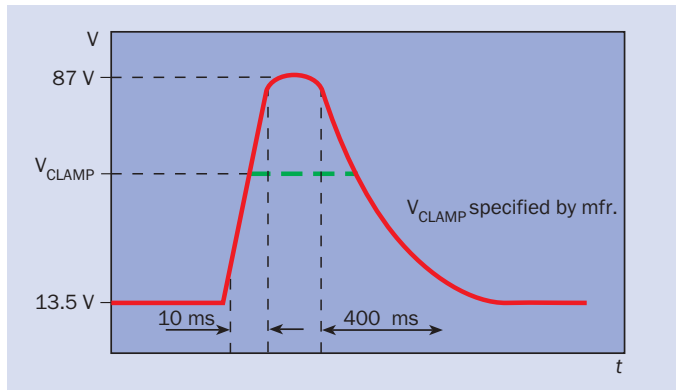

Fig. 1. A typical load dump test wave shape (12V system).
Various automotive standards give different definitions of a load dump test. A typical one is shown in figure 1, as it is defined in (1). The dotted line designates the centrally clamped load dump pulse. However, some interior or exterior lighting fixtures may be intended for use in existing automobiles. These devices may require protection from unsuppressed load dump transients.
The evolution in optics for LED lighting in portable consumer products is illustrated in figure 1. The classical approach has been to use conventional optics (figure 1a) such as dome lenslets and mini-reflectors to collect and form the light.
Fig. 1. The evolution of optics for LED lighting in portable consumer products. The final step, monolithic micro-optics, can significantly reduce volume production costs.